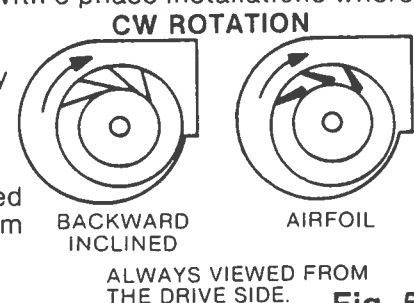

Fig. 5
1. Check for proper wheel rotation by momentarily energizing the fan. Rotation is always determined by viewing the wheel from the drive side and should correspond to the rotation decal affixed to the unit. (Fig. 5). One of the most frequently encountered problems with Centrifugal Fans is motors which are wired to run in the wrong direction. This is especially true with 3-phase installations where the motor will run in either direction, depending on how it has been wired. To reverse rotation of a 3-phase motor, interchange any two of the three electrical leads. Single phase motors can be reversed by changing internal connections as described on the motor label or wiring diagram.